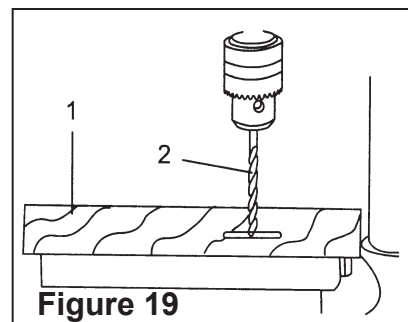

Figure 19
Workpiece method (Figure 19 and 20)
1. Mark the depth (2) of the hole on the side of the workpiece.(1) (Figure 19).
2. With the switch "OFF", bring the drill bit (2) down until the tip is even with the mark (Figure 19).